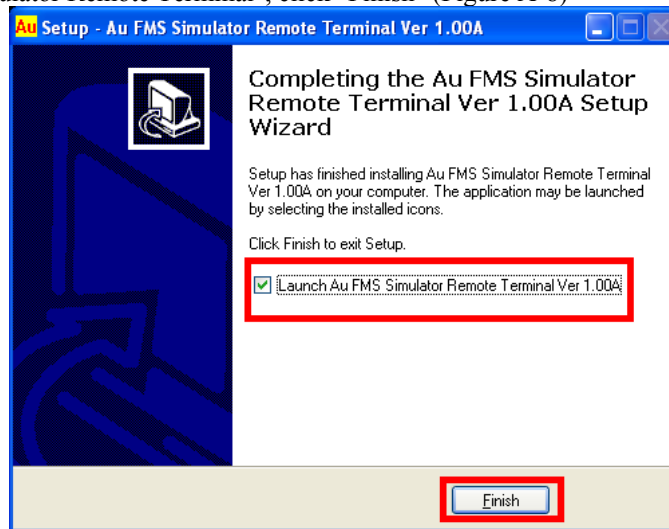

Figure A-8
8. Check "launch Au FMS Simulator Remote Terminal", click "Finish" (Figure A-8)